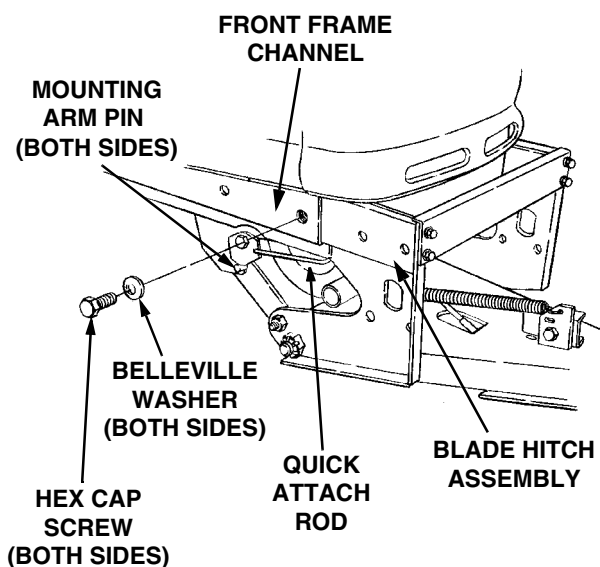

Figure 16
5. Remove the hex screws (10) and bell washers (11) fastening the blade hitch assembly to the tractor frame channels. See Figure 16
6. Push downward and hold the quick attach rod to release the mounting arm pins and slide the blade hitch assembly from the frame channel. Refer to Figure 16.